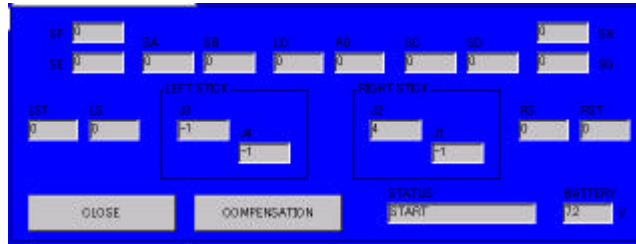

Fig7 Calibration screen
5.6 LCD displays as Fig7 when compensation is finished.
5.8 Go back to Fig7 screen, Push “COMPENSATION” button and select “SW/VR”. There are 3 processes neutral, wide and narrow as same as stick compensation. Holding positions are as follows.